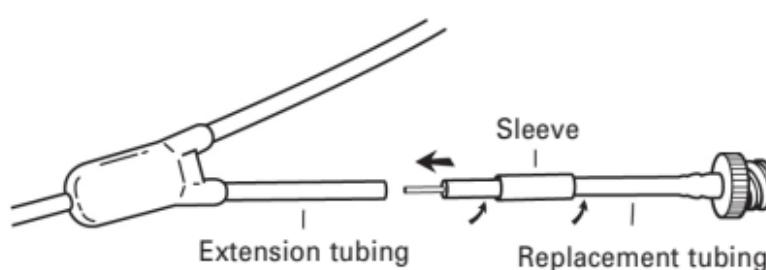

Fig. 12
3. The replacement tubing end has a preloaded metal cannula. With a twisting motion, slide the metal cannula into the extension tubing until the replacement tubing is approximately 2-3 mm from the extension tubing. (Fig. 12)